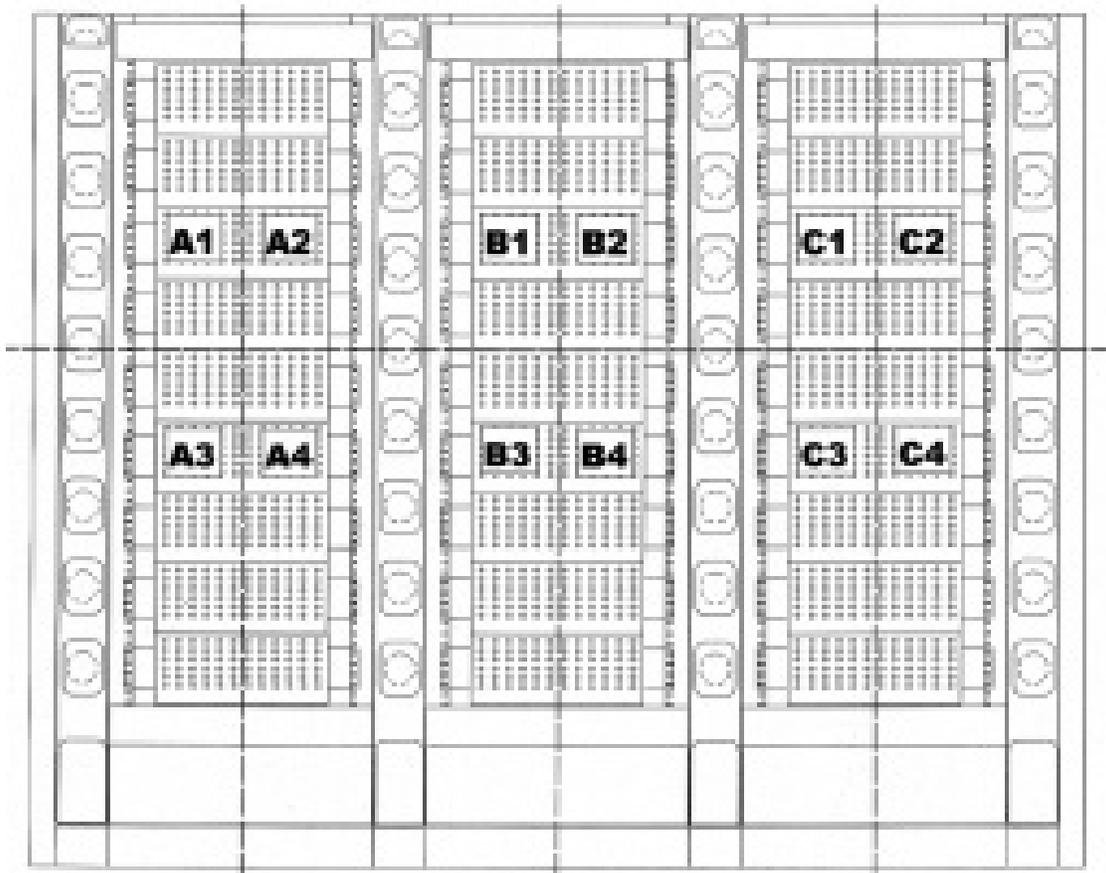

Figure 1
- Step 2:** Select a jumper length based on Table 1 and Figure 1.